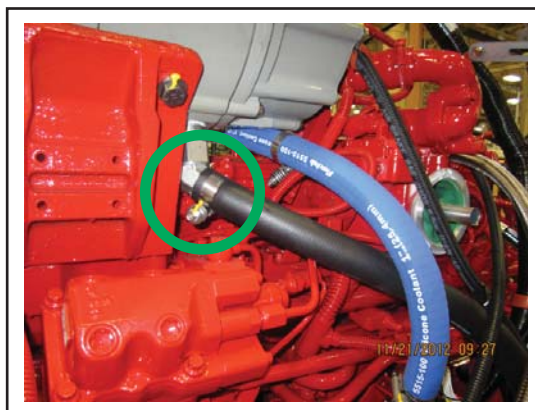

Figure 2 - Alternator Side Hose Clamp
- 1.4. Remove the hose clamp on the alternator side. See Figure 2.